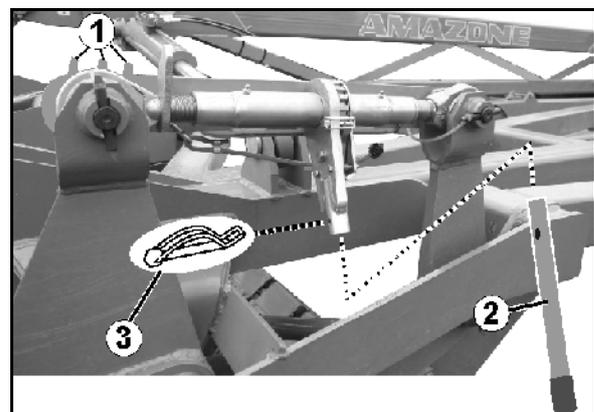

Fig. 57
Centaur Super, Fig. 57
The scale (Fig. 57/1) helps you to set the spindles to the same length.
2. Secure the hand lever (Fig. 57/2) with lynch pin (Fig. 57) to the ratchet (Fig. 57).